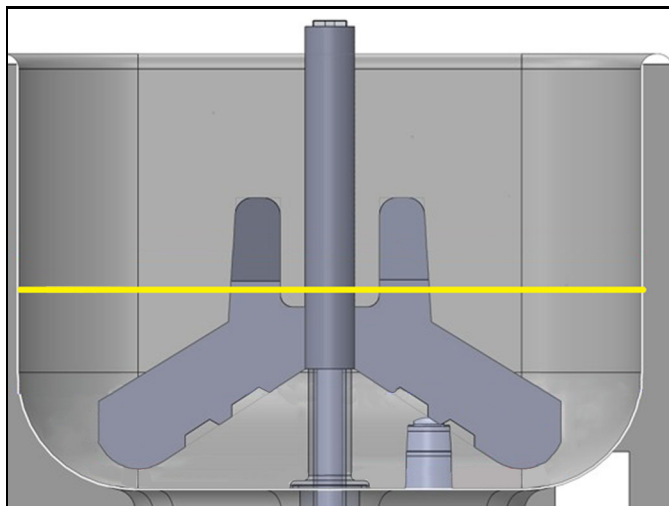

Figure 5-8
- The soft serve mix should be kept in the hopper during heat treat and filled with at least 6 quarts and 10 quarts in maximum, below yellow line marked in Figure 5-8 on page 5-2 of soft serve mix (cylinder must be kept fully filled).